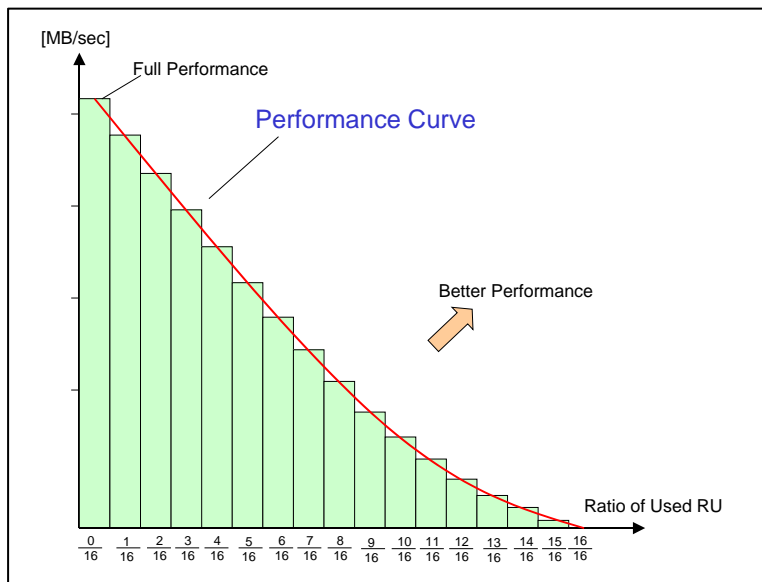

Figure 4-49: Card Performances between 16 RUs
Figure 4-49 shows the write performance bar chart of P(Nu) of equitation (1). An AU consists of 16 RUs in this example. Joining the points of each bar shows the performance curve, which can be determined from the two parameters, Pw and Pm.